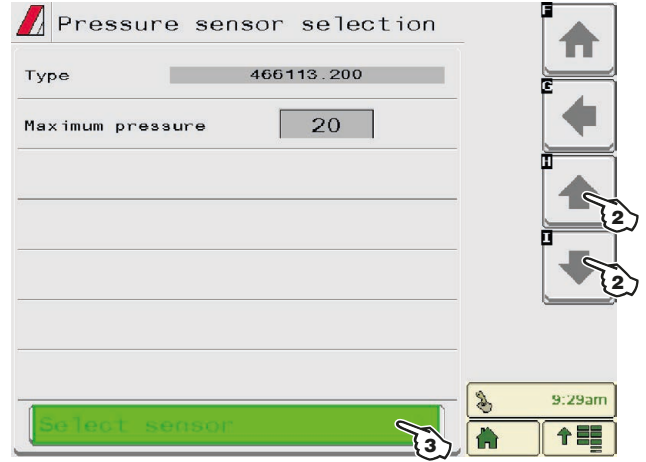

Fig. 42
- 1 Set the installed pressure sensor by selecting it from list in Fig. 42 (use keys 2 to scroll items, and key 3 to confirm).